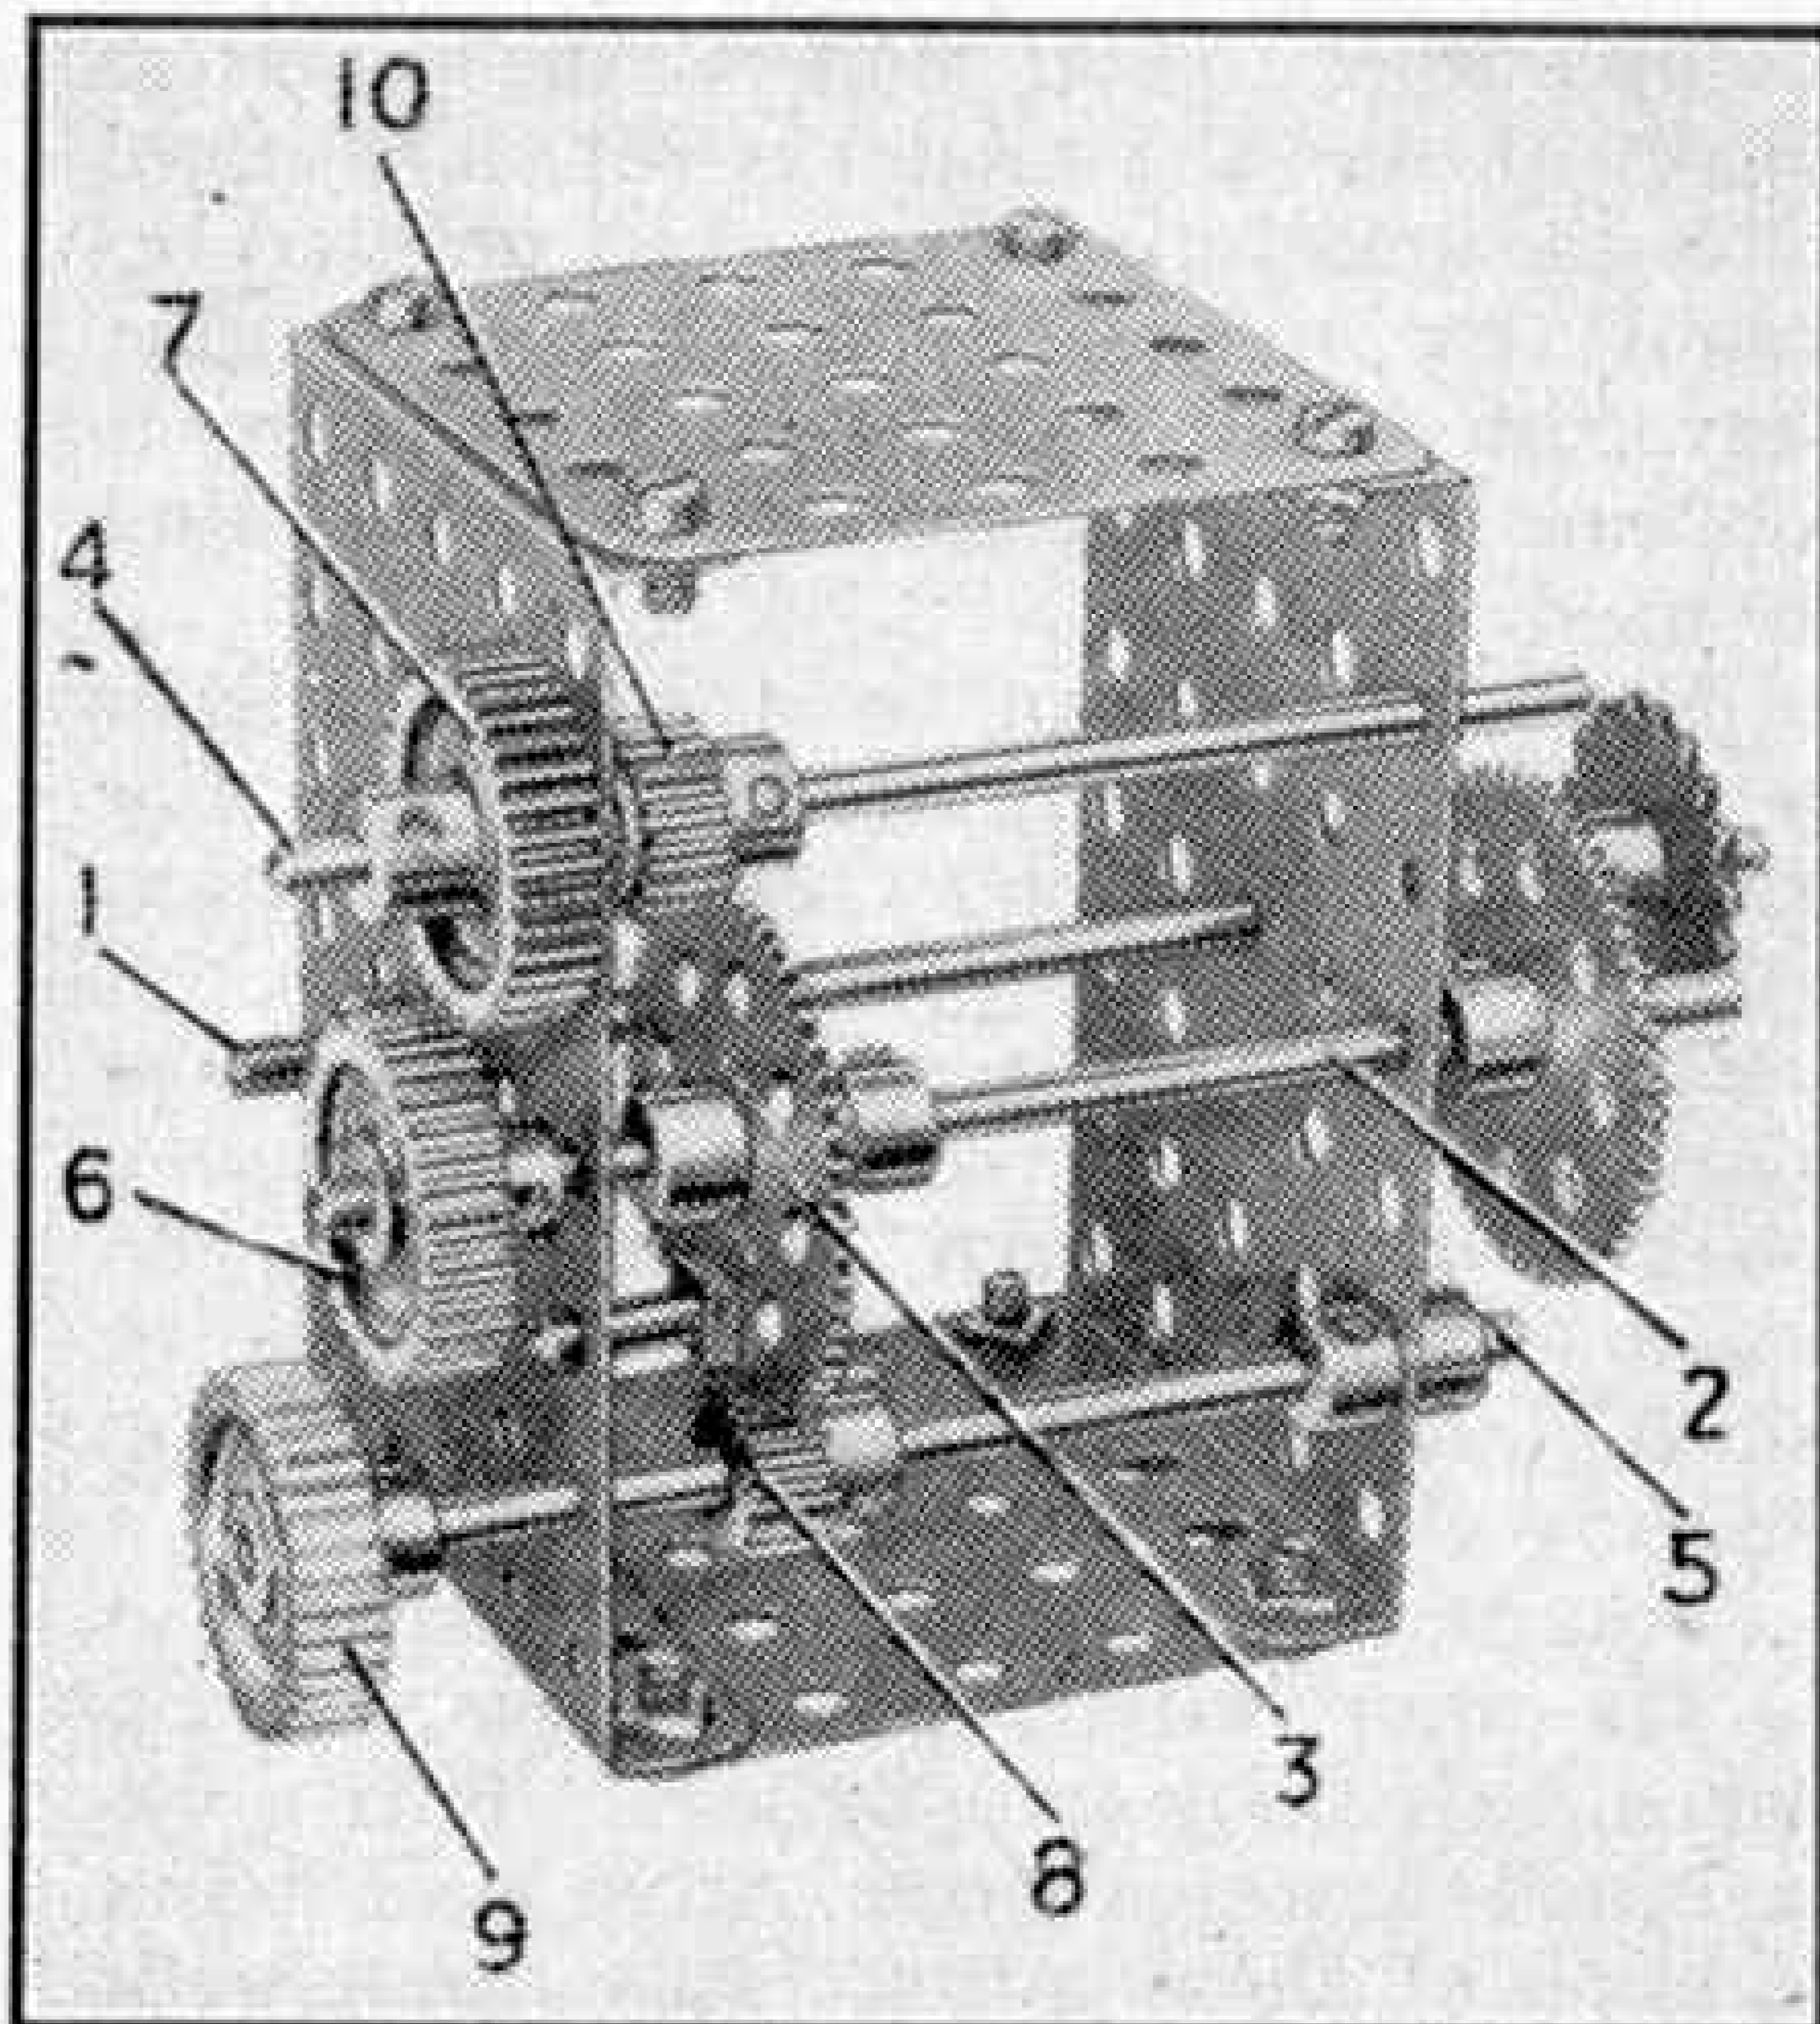

Fig. 5. The automatic brake mechanism for cranes designed by D. W. Tyler, Waltham Cross. It is described on the opposite page.
D. W. Tyler, Waltham Cross, built a large model derrick crane recently and during its construction he devised a neat brake that is applied automatically to each winding shaft as soon as the motor drive is disengaged. The automatic mechanism is shown in Fig. 5 and I think model-builders will find the idea useful not only in cranes, but also in other models fitted with winding shafts.